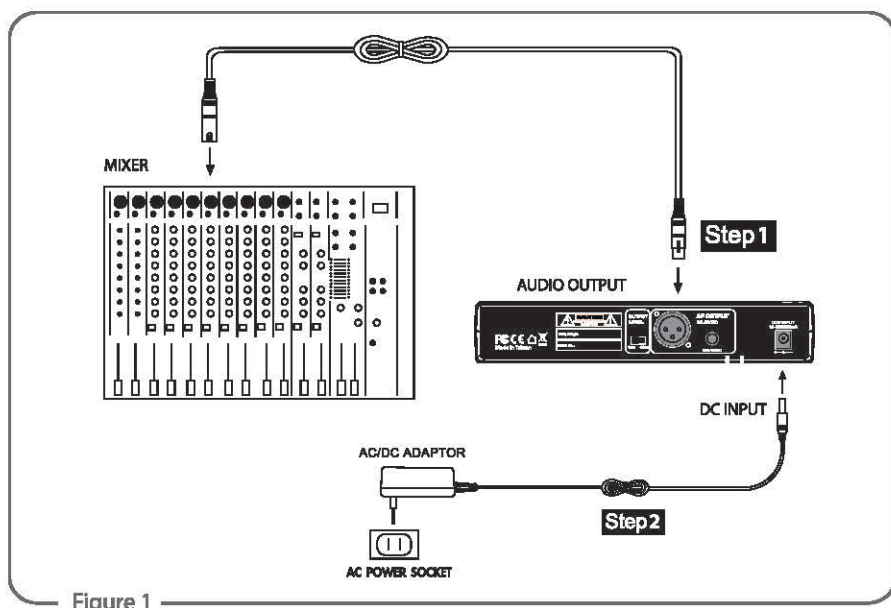

Figure 1
- (1) Connect to the subsequent unit (e.g. mixer, or amplifier)
Connect one end of a proper AF cable to the AF Output ⑪ or Balanced XLR Output socket ⑫, then plug another end to the "MIC IN" input socket of a mixer or a amplifier (Step 1 for Figure 1)
- (2) Connect the power supply unit
Plug in one end of AC/DC adaptor cable ⑬ to Power Supply Jack ⑨ in the rear panel of receiver, and plug another end into an AC outlet (Step 2 for Figure 1)